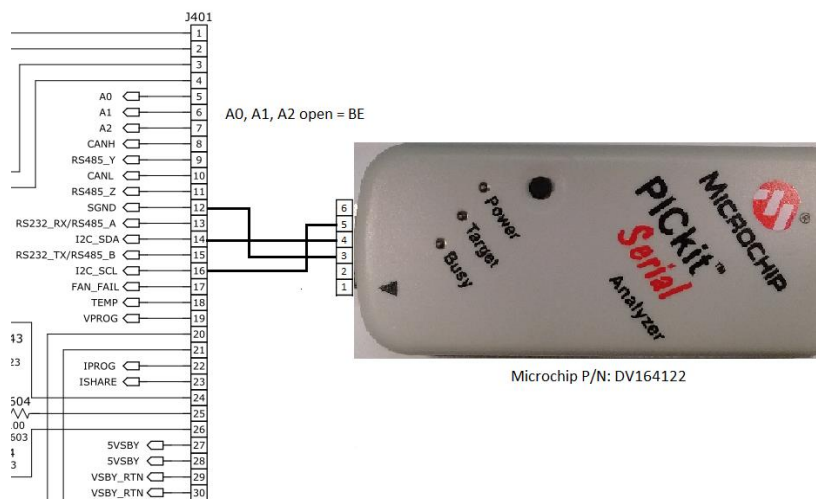

Figure 1: PICKit interface cable diagram.
1. Connect HPx to PICKit Serial Analyzer as shown in Figure 1 below.